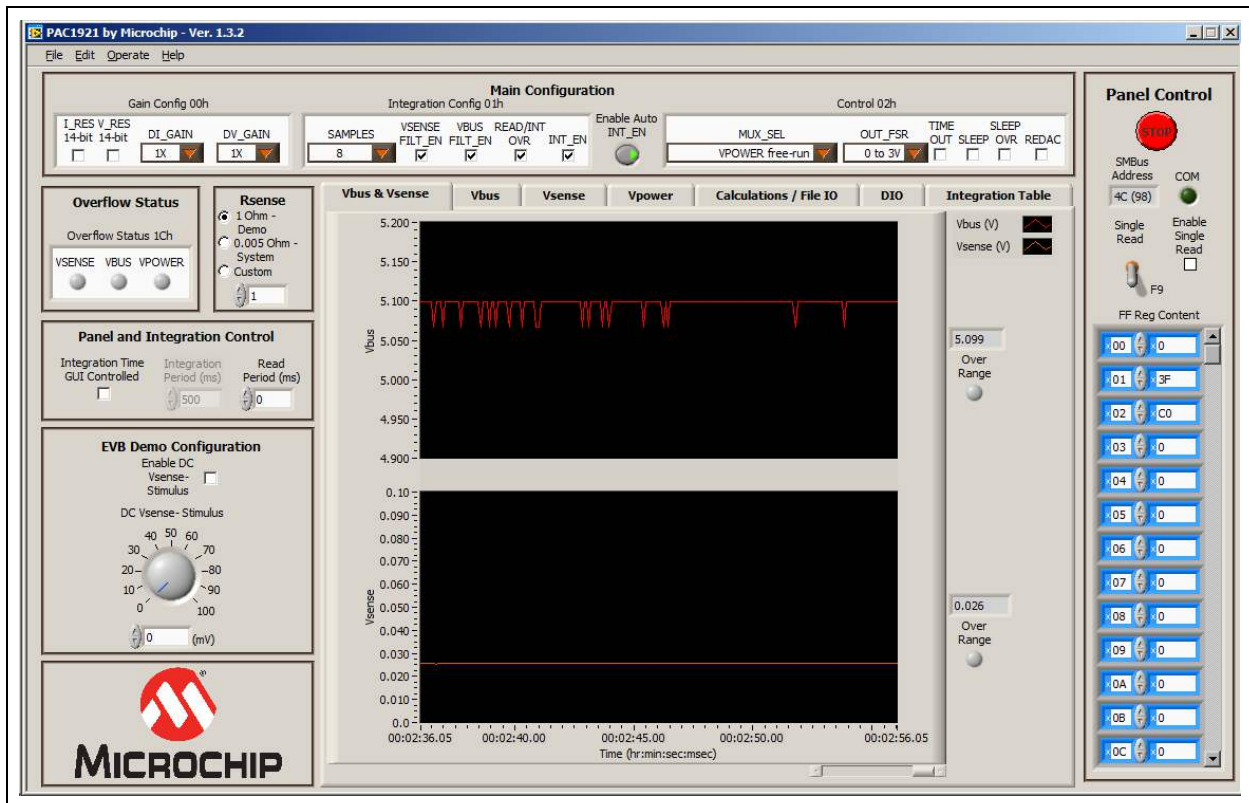

FIGURE 4-25: Increased Sample Effect.
- Change the number of “SAMPLES” to 8 and observe the improvement in the plots on the **Vbus & Vsense** tab, as shown in Figure 4-25.